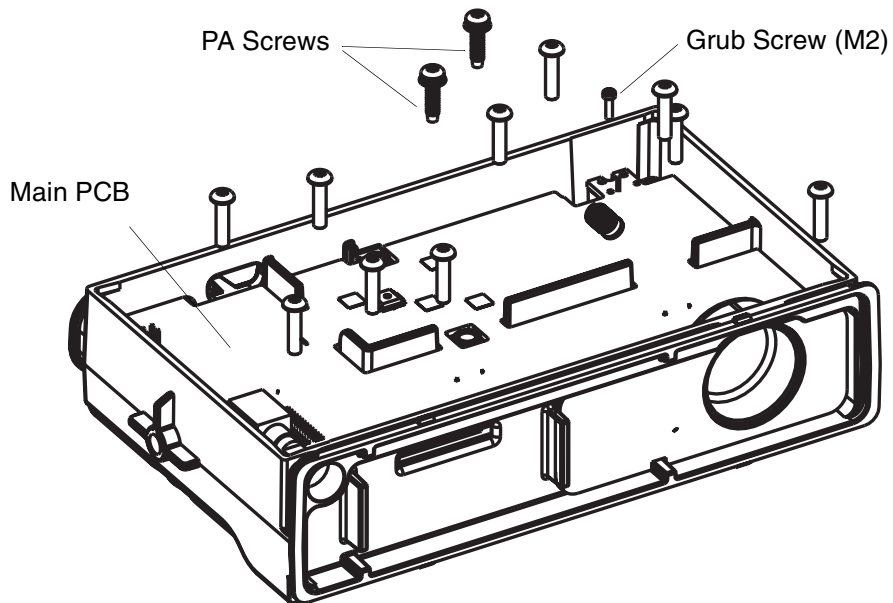

Figure 2-10 Main PCB Removal (for Radios without PA Clip)
1. Remove the PA screws. See Figure 2-10.